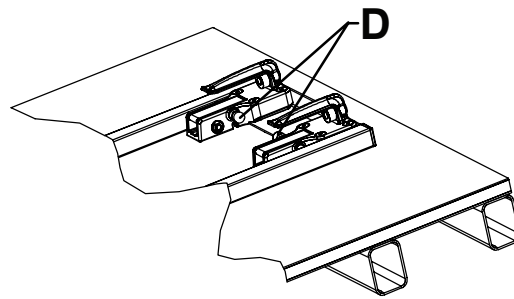

Figure 11 – Proper orientation of head end hooks - View 4C
- The red release knobs must be oriented toward the center of the fastener (Figure 11).